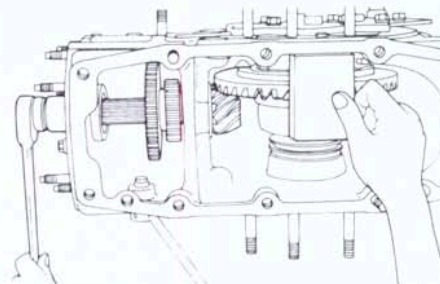
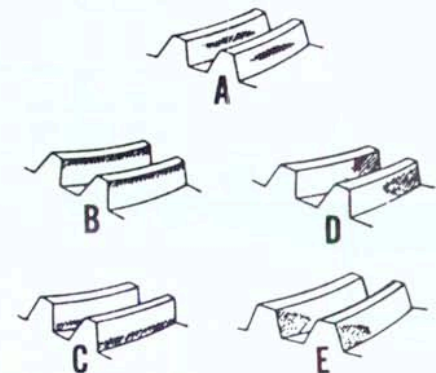

Fig. 132—To check mesh position of ring gear and pinion teeth, turn pinion shaft while applying light resistance to ring gear.
Fig. 133—Typical gear tooth mesh patterns on ring gear. Desired tooth contact is indicated in pattern "A". Refer to text for adjustment procedure.
**96. MESH POSITION.** To check tooth contact between bevel pinion and ring gear teeth (mesh position), apply a light coat of red lead over several ring gear teeth at three different positions around ring gear. Turn pinion shaft (Fig. 132) while applying resistance to ring gear rotation by pressing a block of wood against ring gear. Check gear tooth contact area (red lead will be wiped off) and compare with patterns shown in Fig. 133.